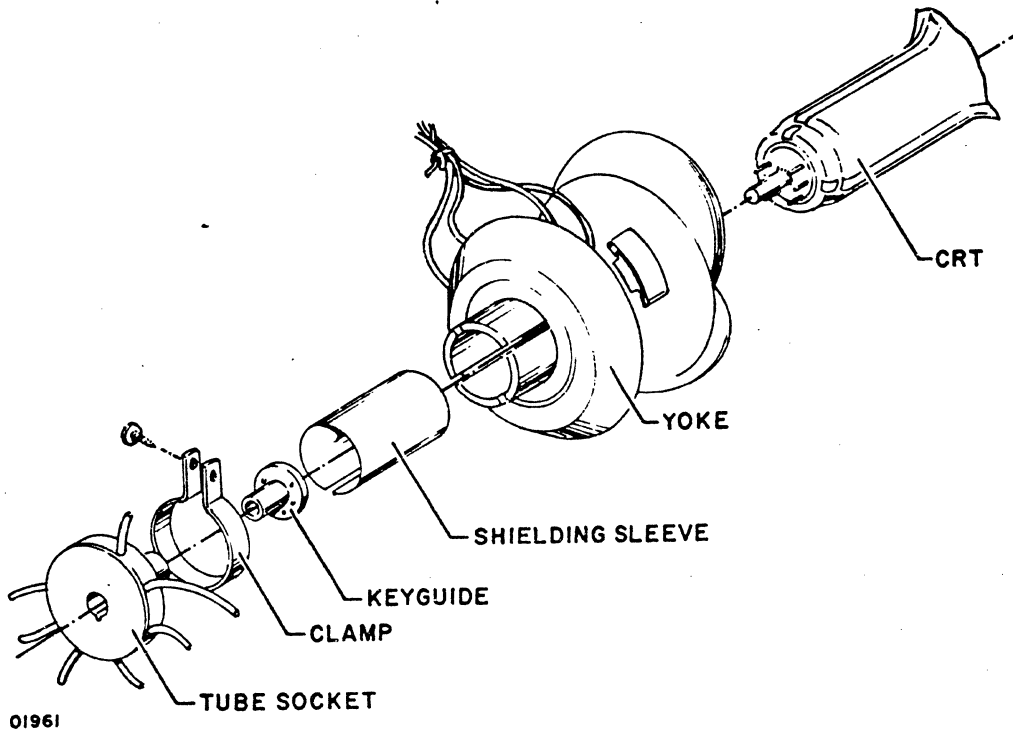

Figure CRT23. Yoke Assembly
- 7) Loosen clamp which holds yoke in place with screwdriver (figure CRT23).